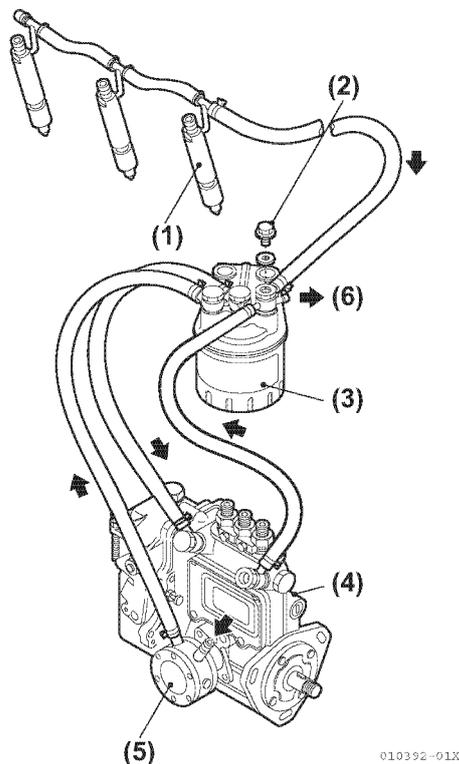

Figure 5-12
12. Remove the fuel filter (Figure 5-12) and (Figure 5-13).